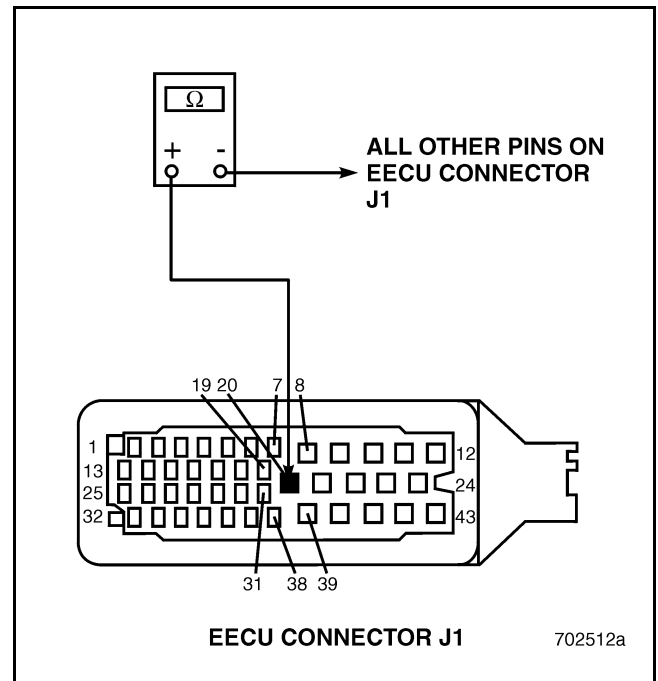

Figure 430
4. Install the purple male test lead found in the J 38581 V-MAC Jumper Wire Kit into EECU harness connector J1, pin 20. Check for continuity between EECU harness connector J1, pin 20 and all other pins in EECU harness connector J1 (see Figure 430).